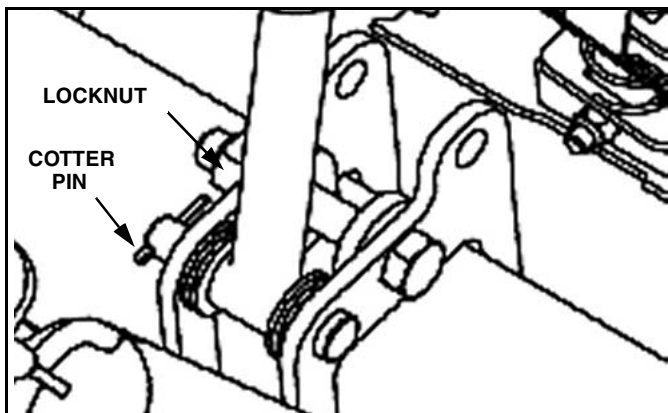

Figure 1-17
- d. Slide the brackets together. Secure the lift pin with a cotter pin and the cap screw with a 3/4" locknut. (See Figure 1-17).